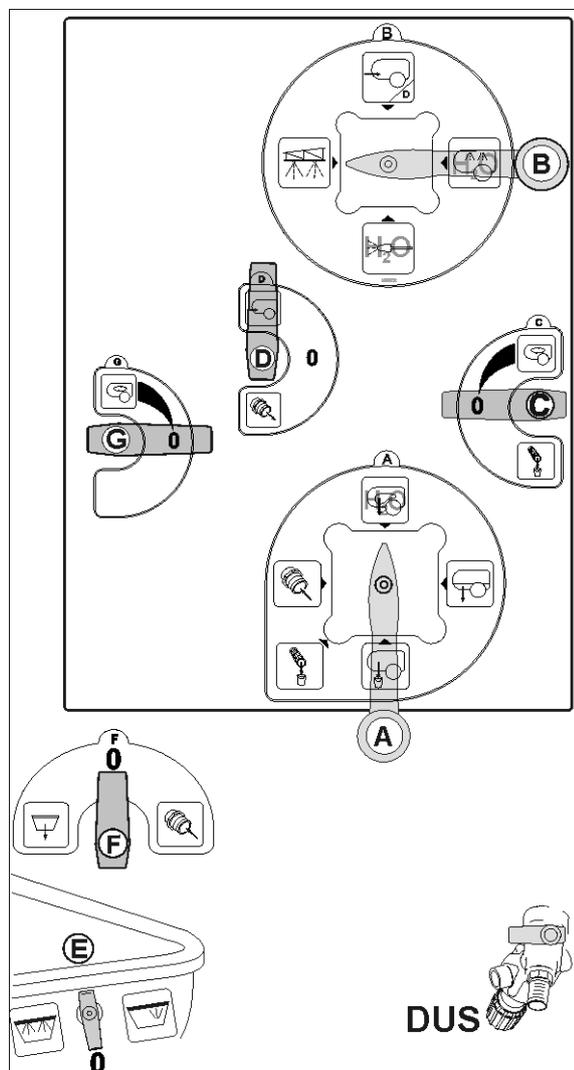
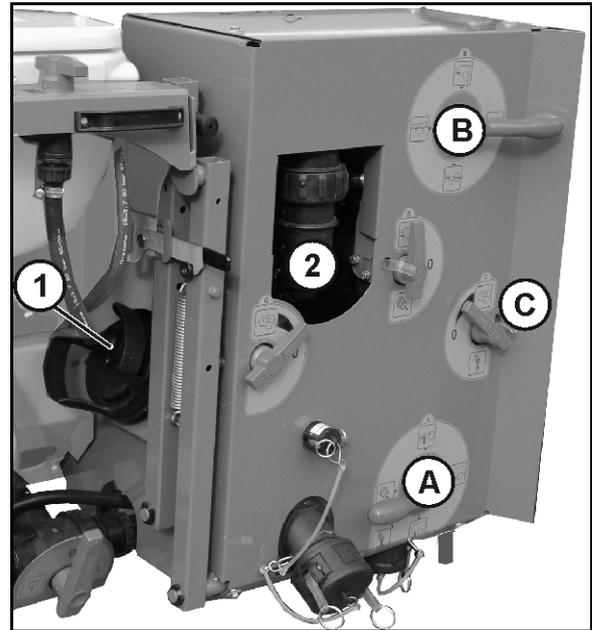

Fig. 139
Fig. 140
2. Remove and clean the suction filter (Fig. 139/1); see Seite 186.
- 5.1 Drain the pressure filter (Fig. 139/2) via tap **C**.
- 5.2 Unscrew the agitator hose (Fig. 140/4) (which comes out of tap **C**) from the spray liquid tank.
6. Unscrew the supply hose (Fig. 140/1) from the control valve. The supply hose connects the VARIO switch tap on the pressure side (Fig. 139/**B**) with the suction chest.
7. Unscrew the return hose (Fig. 140/2) for the part width section valve from the VARIO switch tap on the suction side (Fig. 139/**A**).
9. Remove the internal cleaning hose (Fig. 140/3) for the VARIO switch tap on the pressure side (Fig. 139/**B**).
11. Also remove the external cleaning hose even if there is no external cleaning (Fig. 140/5).
15. Move the VARIO switch tap on the suction side (Fig. 139/A) and the VARIO switch tap on the pressure side (Fig. 139/B) several times between all their switch positions.